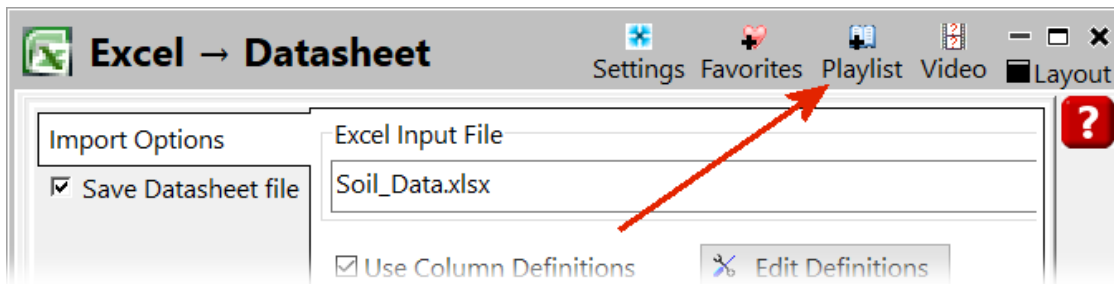

Figure 13
- This step can be automated for future use by adding it to the Playlist. This is accomplished by re-selecting the Datasheet / File / Import / Excel option and selecting the Playlist option (Figure 13).